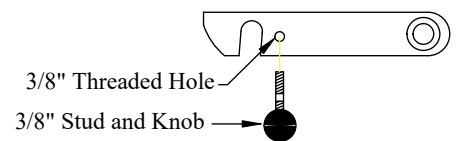

Figure 13: Original Series platform latch knob.
- 1. Install** the two (2) knobs on the platform latches (Figure 13).
- 2. Install** the two (2) square plastic insert nuts for the license plate into the square holes on the liftgate.
- 3. Install** the license plate using the two (2) stainless steel screws provided.